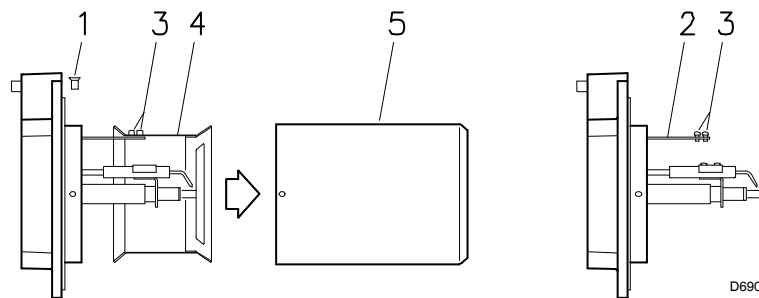

Fig. 8
5.5 Securing the burner to the boiler (Fig. 8)
- Unscrew the screws 1) (Fig. 8) and disassemble the blast tube 5)